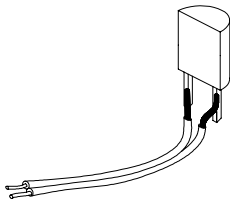

Fig. 3.0
- ❑ Solder two isolated wires (75 cm or 30") to the sensor (see fig. 3.0)